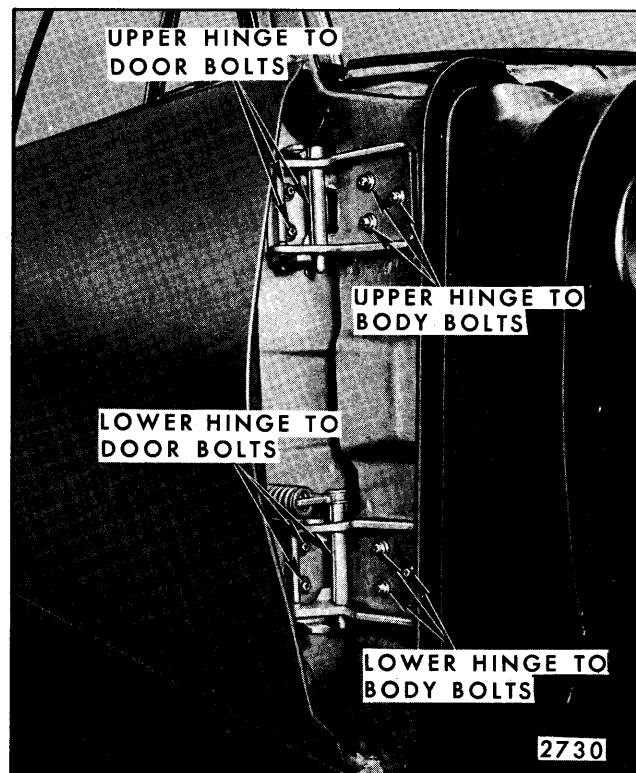

Fig. 6-54—Front Door Hinge Attachment - "A" Styles
1. If both hinges are to be removed, remove front door as previously described. Mark position of hinge on body hinge pillar and remove hinge to body hinge pillar attaching bolts (Fig. 6-54).